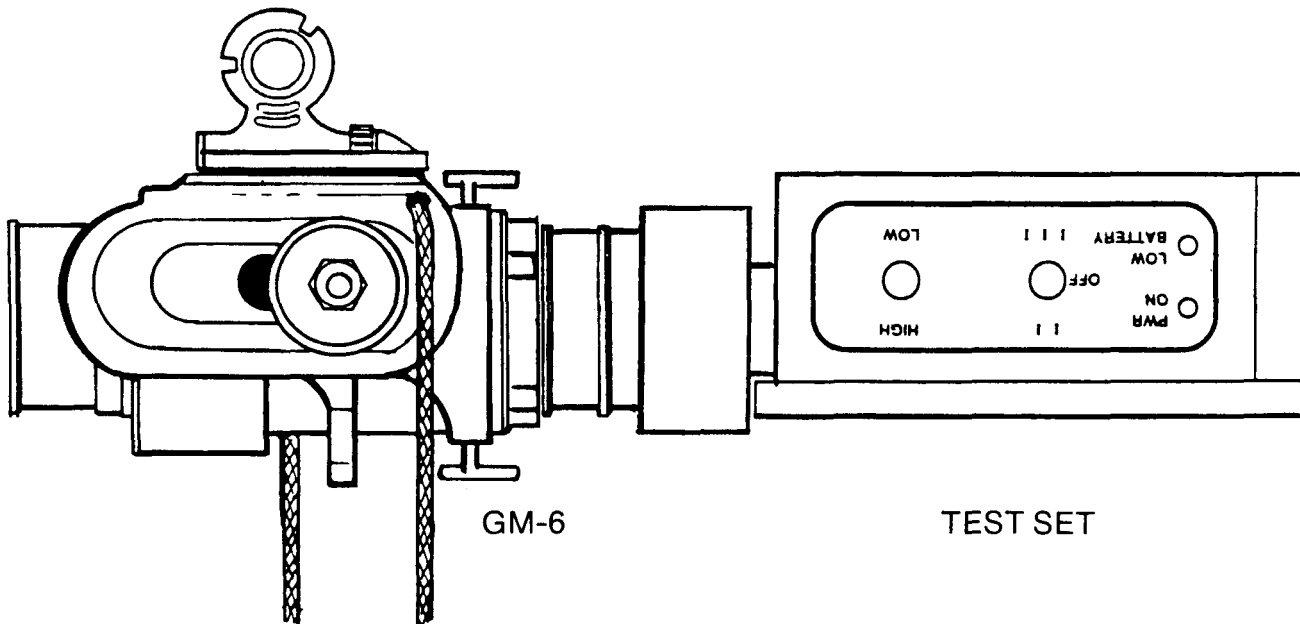

Figure 2-14. Attaching the TS-4348/UV Test Set to the NVG (GM-6(V)1 NVG shown, GM-6(V)2 is similar).
5. Hold the test set squarely onto the front of the exposed objective lens of one monocular as shown in Figure 2-14. Continue to hold the test set squarely onto the end of the objective lens while performing the following steps. If You do not hold the test set, it may fall off the end of the monocular.